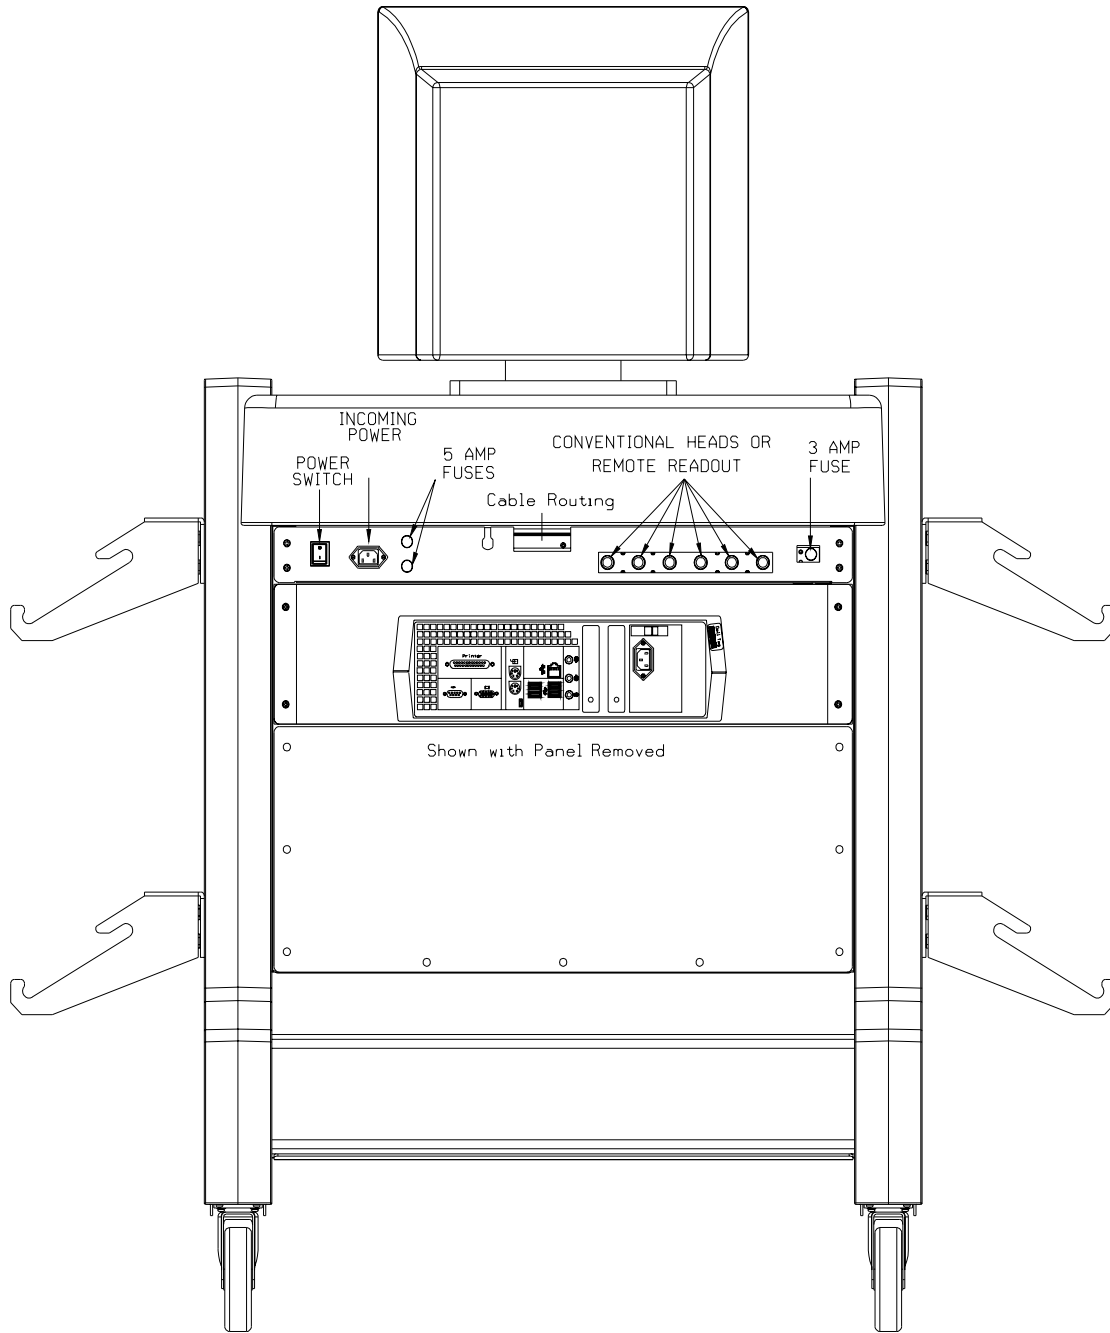

Figure 2 - Console rear view with PC access panel removed
6. Remove the back panel from the rear of the console as shown in Figure 2.
10. Route cables from each of the above peripherals to the PC. Refer to the drawing detail in Figures 2 and 3 for proper cable connections. **IMPORTANT** - Connect the Mouse to the front USB port.